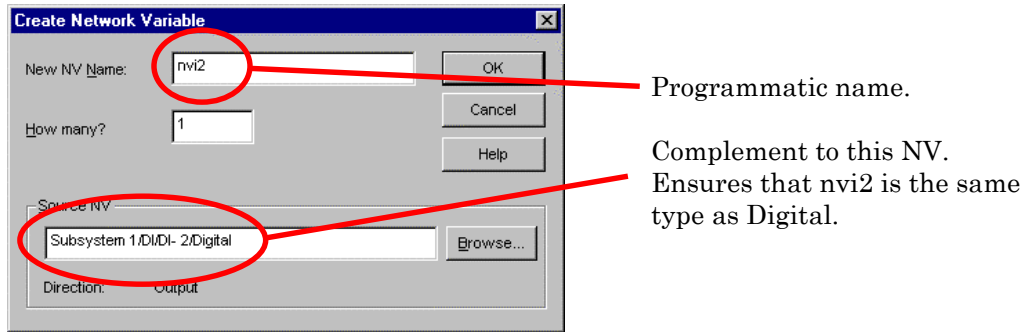

Figure 9-7 – Network Variable Creation
13. Click **Create NV** to open a dialog which allows you to dynamically create complementary network variables on the host. From this dialog, click **Browse** and browse to one of the Digital output network variables on the DI-10 functional blocks, as shown in Figure 9-7.